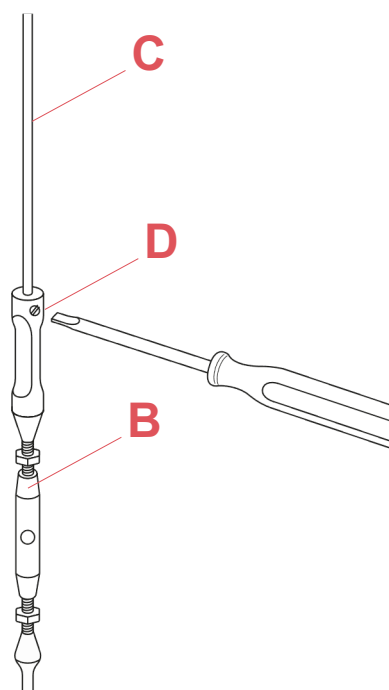

Fig.2
Insert the end point of the steel suspension cable (C) into the upper hole of the turnbuckle (B) and then fasten the locking screw (D). (Fig.2 page 29)